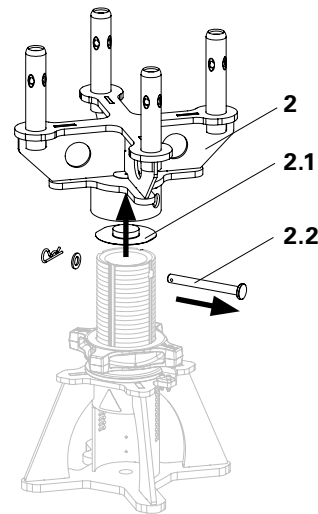

Fig. A4.01a
1. Remove Connector (2) from the Spindle Tube. (Fig. A4.01a)